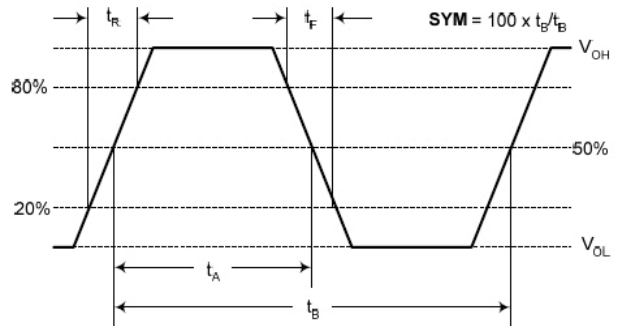

Figure 3. 10K LVPECL Waveform
4. Measured from 20% to 80% of a full output swing (Fig 3).